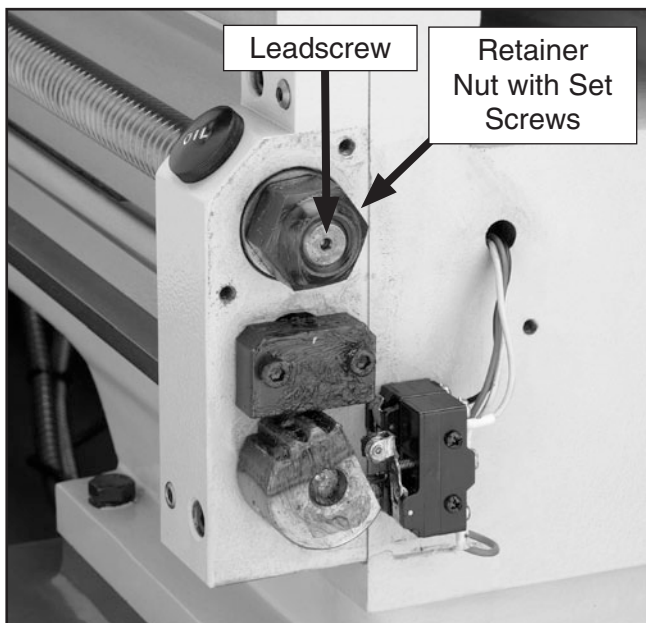

Figure 112. Leadscrew end play adjustment.
3. Using a 3mm hex wrench, loosen both retaining nut set screws (**Figure 112**).